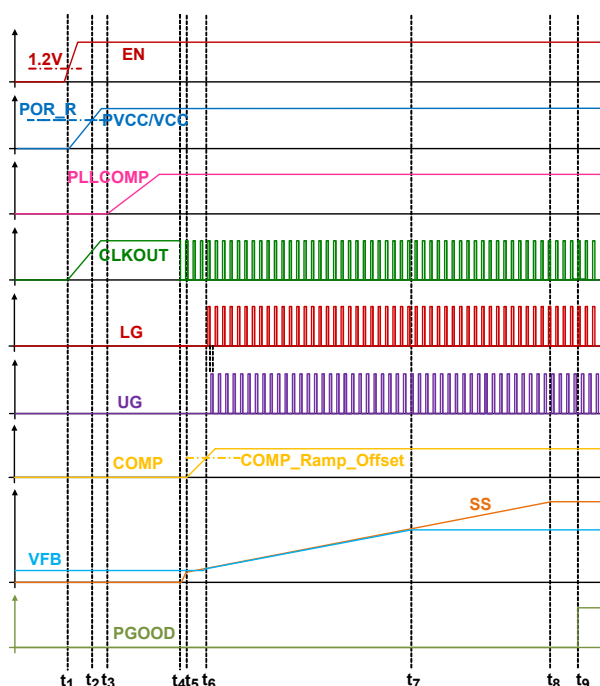

FIGURE 67. CIRCUIT INITIALIZATION AND SOFT-START
- There is no limit for the minimum voltage on the TRACK pin, but note the lower reference voltage and the lower voltage feedback regulation accuracy. Note the SS\_DONE signal is checking  $V_{REF\_TRK} \geq 0.3V$  as one of the conditions (refer to  $t_g$ - $t_g$  description on page 31 and Figure 67 on page 30). Also, for the boost converter, the regulated output minimum voltage is usually the input voltage minus the upper MOSFET's body diode drop, in which case, the corresponding voltage at FB voltage is the minimum effective voltage for the  $V_{REF\_TRK}$  and  $V_{REF\_DAC}$ .
Prior to converter initialization, the EN pin voltage needs to be higher than its rising threshold and the PVCC/VCC pin needs to be higher than the rising POR threshold. When these conditions are met, the controller begins initialization and soft-start. Figure 67 shows the ISL78229 internal start-up timing diagram from the power-up to soft-start.
Assuming input voltage is applied to the VIN pin before  $t_1$  and VCC is connected to PVCC, as shown on Figure 67, the descriptions for start-up procedure is elaborated in the following:
Diode emulation occurs during  $t_5$ - $t_8$  (on Figure 67 on page 30), regardless of the DE/PHDRP operating modes (Table 2).
After the ISL78229 is enabled, during the part initializing time  $t_1 - t_4$  (refer to Figure 67 on page 30) before soft-start, the SALERT pin is kept pulled low. If no faults (listed in Table 4 on page 41) occurs during  $t_1 - t_4$ , the SALERT pin open-drain transistor will be open at  $t_4$  when soft-start begins and the pin voltage is pulled high by the external pull-up circuits. If any fault in Table 4 on page 41 occurs after the beginning of soft-start, the corresponding bit of the FAULT\_STATUS register will be set to 1 and the SALERT pin will be pulled low.